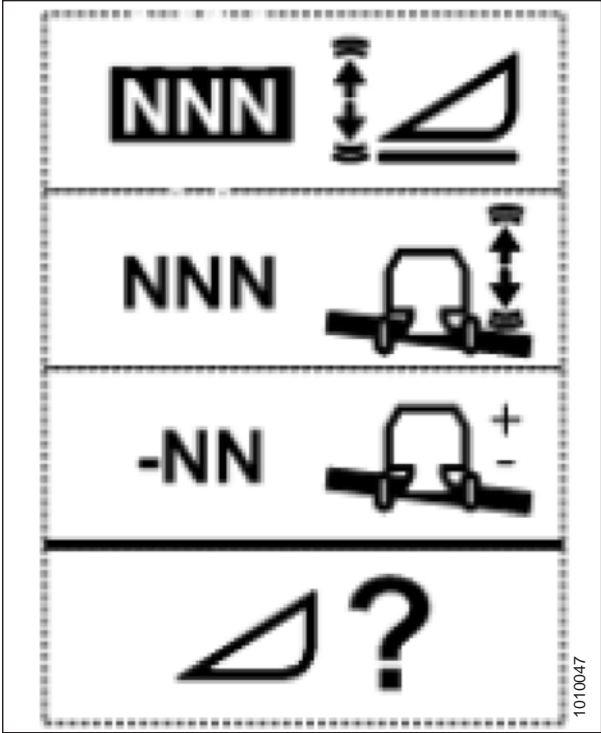

Figure 7.69: Height Sensitivity Change Page
1. Use HEADER SETTINGS key (A) to display the HEADER SENSITIVITY CHANGE page as shown in Figure 7.69, page 199.
2. Use the UP key (B) or DOWN key (C) to adjust the highlighted item. The height sensitivity setting range is 0 (least sensitive) to 250 (most sensitive) in increments of 10.